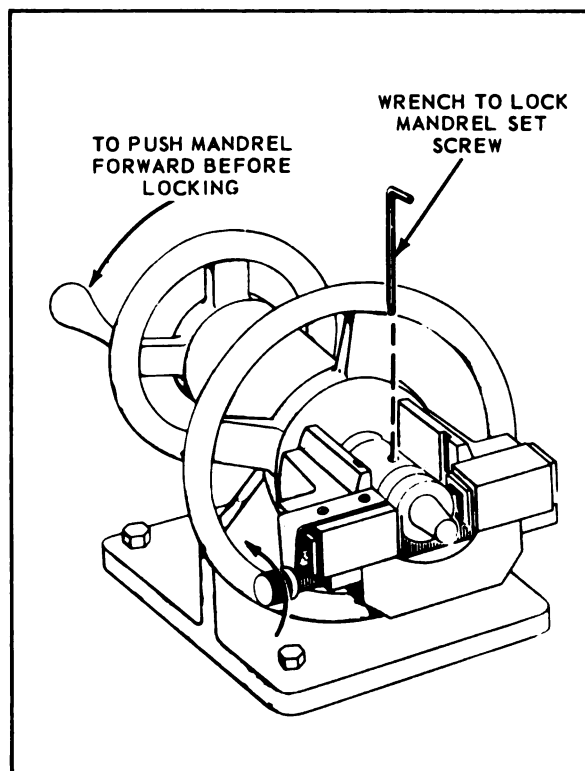

Figure 11-13. Locking Mandrel in Place
- f. Rotate mandrel wheel in direction shown by arrow until mandrel is in light contact with collet. (See figure 11-13)
- g. Make sure that mandrel is seated in shaft, and tighten set screw with wrench as shown in figure 11-13.